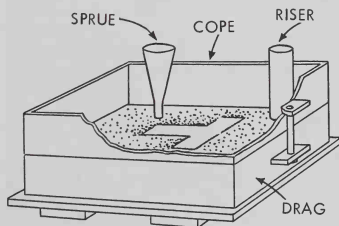

Fig. 9-9. Cope set on drag with riser pin and sprue pin in place.
9. Dust some parting compound over the pattern, and sand to keep the two halves from sticking together. Set the cope part of the flask on the drag, Fig. 9-9. Insert the sprue pin and riser pin.